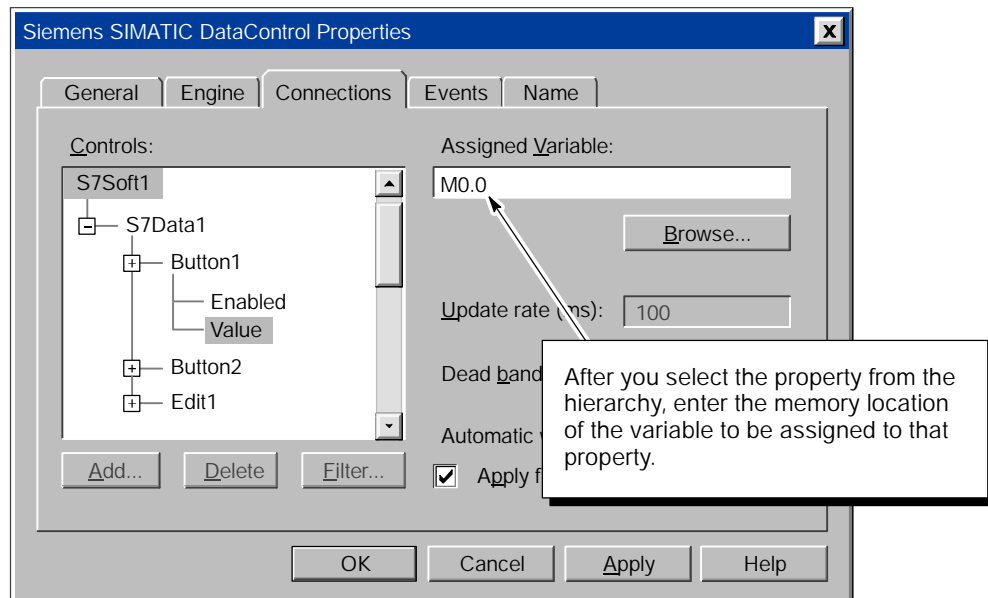

Figure 4-5 Browsing to a Symbol in the Tag File
To define a connection in the control engine, you assign a variable (memory location) in the control engine to a property of a control. See Figure 4-5.
1. On the Connections tab of the Data control, select (click on) the name of the property (Figure 4-5).
Figure 4-5 shows the property listing with a filter applied to display only the Enabled and Value properties. (For more information about filtering the property listing, see Section 4.5.)
2. In the "Assigned Variable" field, enter the memory address in the control engine, and enter the absolute address (such as **M0.0**) for the memory location in the control engine (Figure 4-5). See Appendix A for information about the data types and memory areas of the S7-200 controllers.